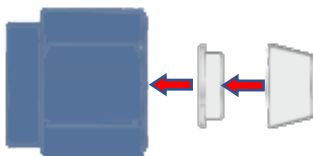

Figure 9: Orientation of Inlet Nut and Ferrules
2. Place the two PFA ferrules inside the PFA nut as shown in Figure 9.